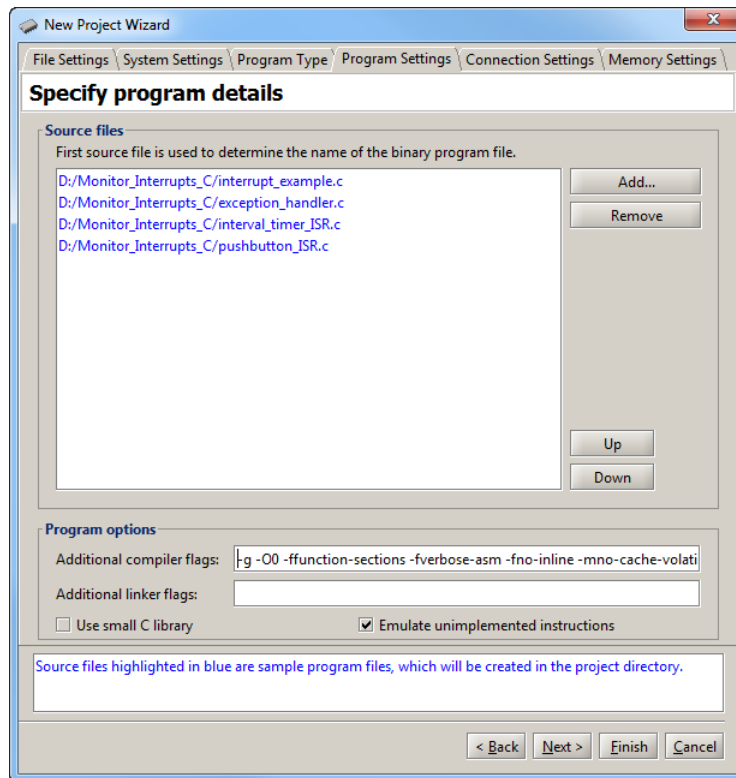

Figure 35. The source files for the C code interrupt example.
this program gives C code that performs the same operations as the assembly-language code in the previous example. The source files for the C code are listed in Figure 35. The main program is given in the file *interrupt_example.c*, and the other source files provide the reset and exception handling for the C program, as well as two interrupt-service routines. Complete the steps for creating the project, and then compile and load it.
- Memory element size - the display can format the memory contents as bytes, half-words (2-bytes), or words (4-bytes). This setting can be configured by right-clicking on the Memory window, as illustrated in Figure 35.